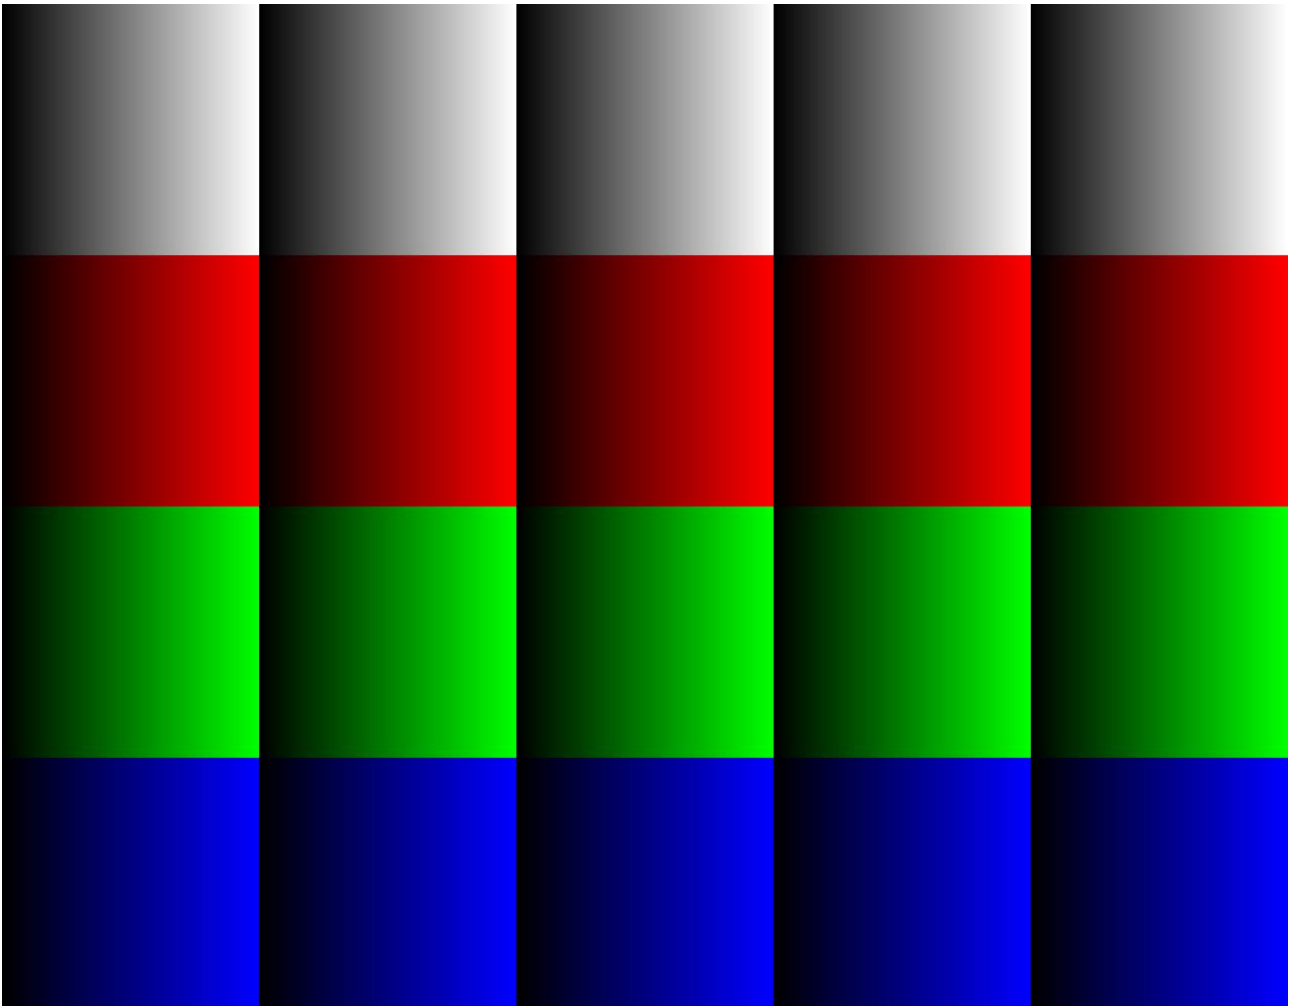

Figure 16 : Horizontal color pattern
2. Horizontal color ramp – horizontal gradient of several color stripes as shown in Figure 16.